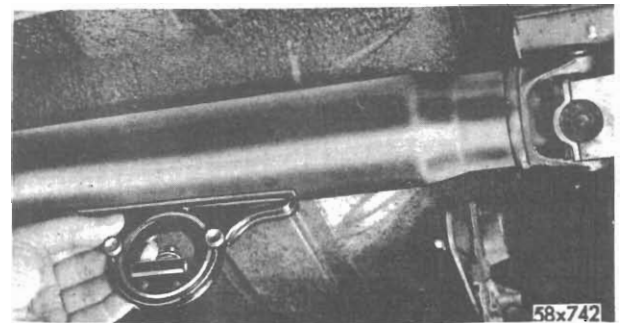

Fig. 4 - Checking propeller shaft angularity
(4) Place the protractor on the underside of the propeller shaft, level the bubble, and record the angularity, as shown in *Fig. 4*. This value is the slope of the propeller shaft. Again note the direction.
(5) The rear universal joint angle may be resolved as follows: